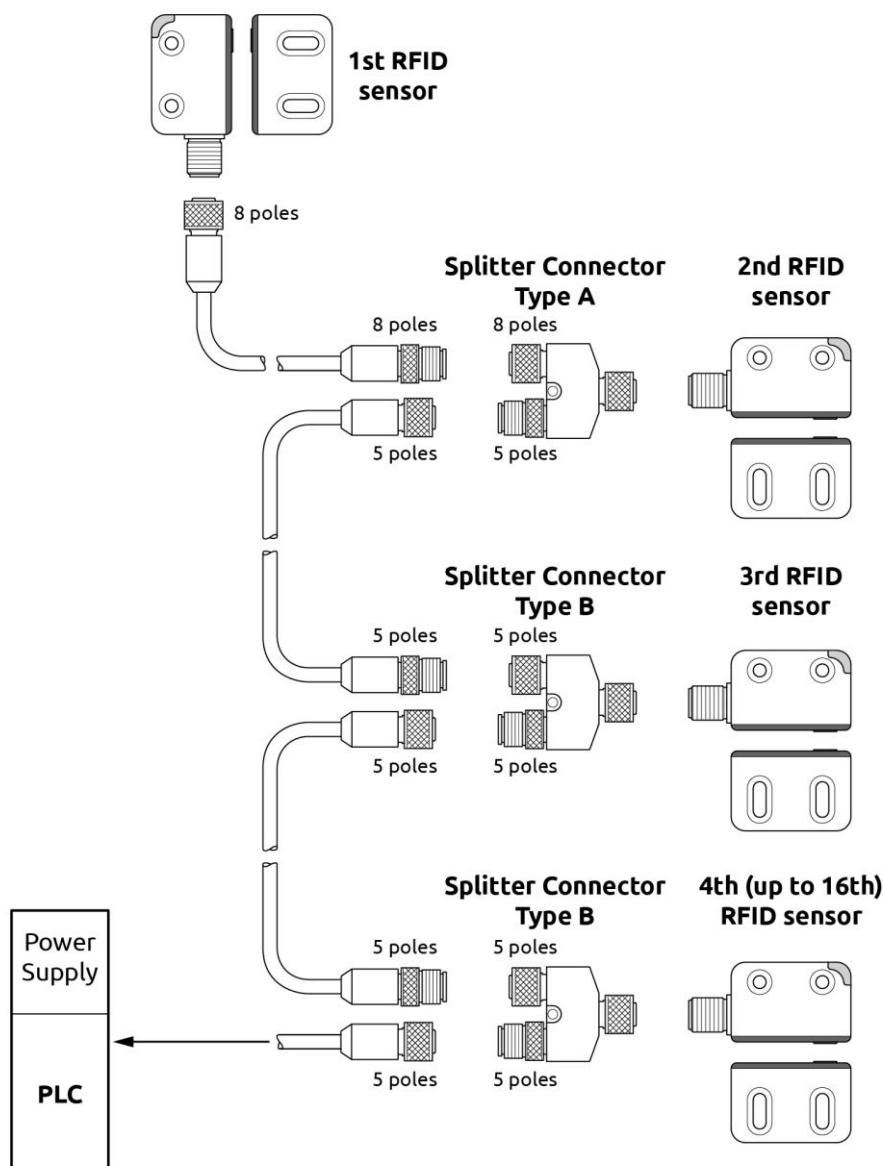
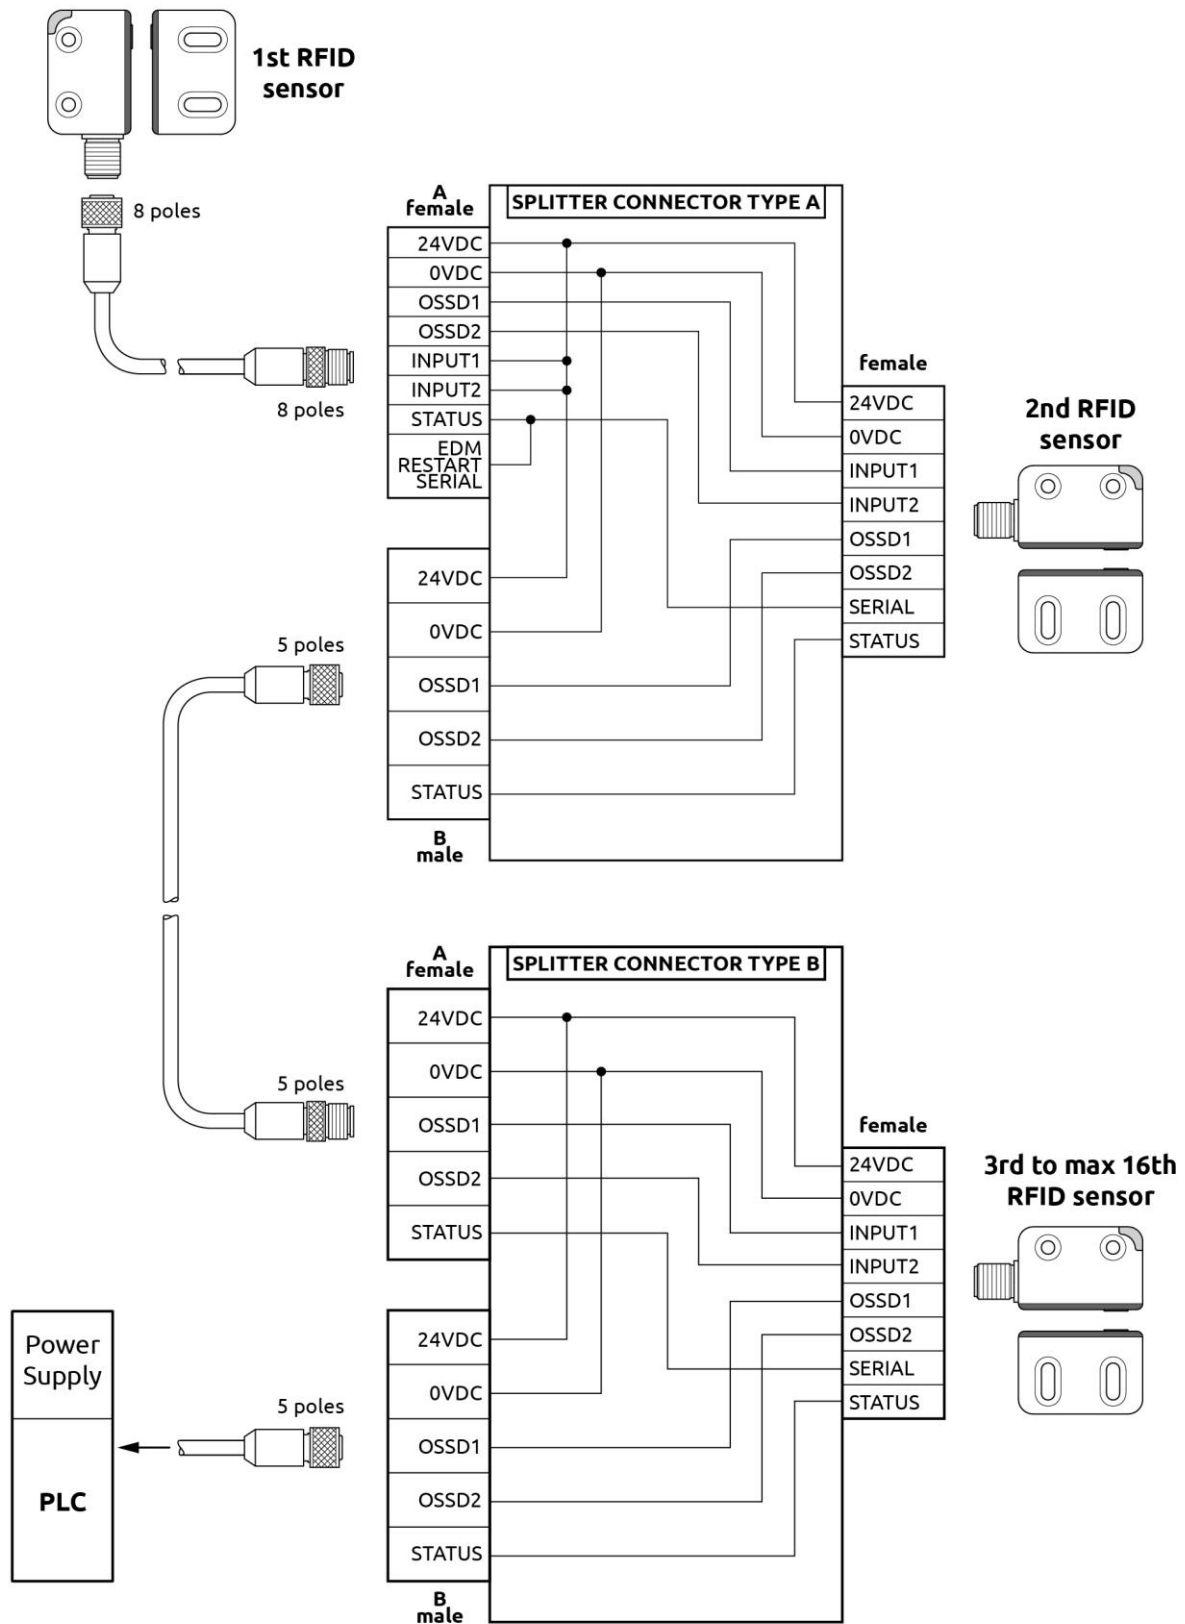

Figure 6 - Serial mode (Automatic)
Figure 9 - Serial mode wiring (Automatic)
- ➔ For a quicker and safe connection, ReeR recommends using its splitter connectors as showed in Figure 6 and Figure 9.